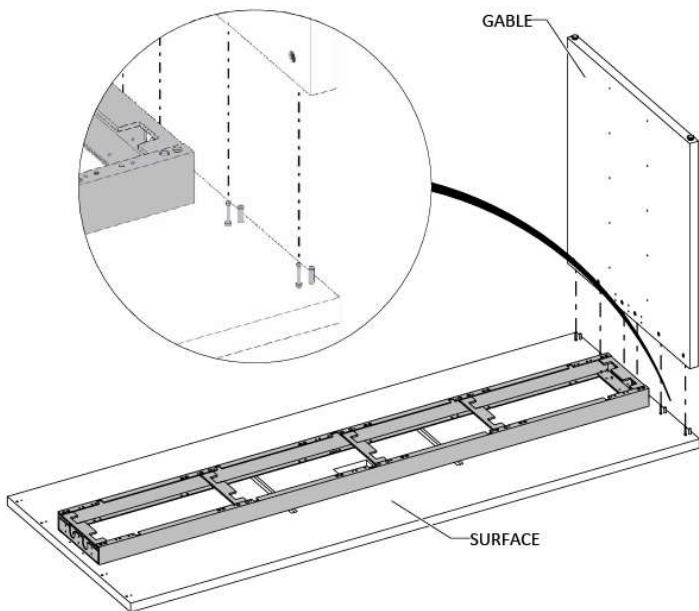

Figure 6
18. Connect the gable to surface and press the boards together by inserting the combi dowels and wooden dowels into the holes of the gables, (Figure 6).